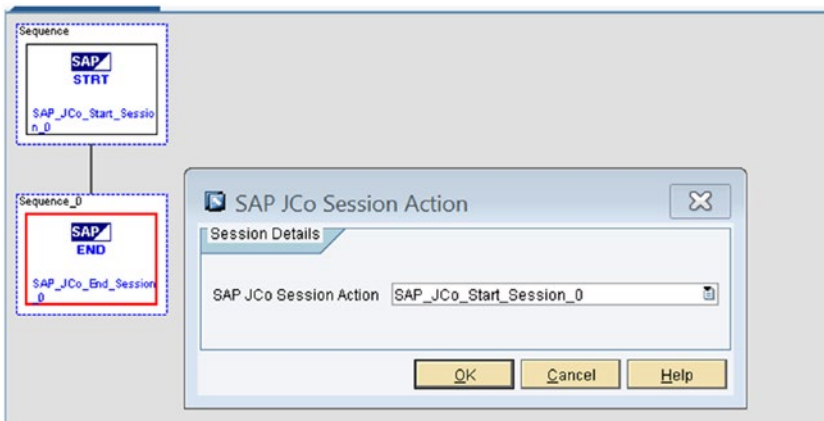

Figure 7-170. SAP JCo End Session action block and its configuration
- *SAP JCo End Session*: This action closes a session between SAP MII and SAP ERP Central Component (SAP ECC). See Figure 7-170.